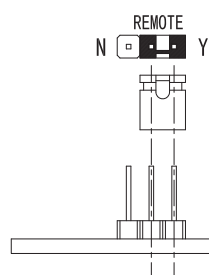

Figure 2
- When customer needs remote lamp, please insert terminal to Y. (See Figure 2 below)